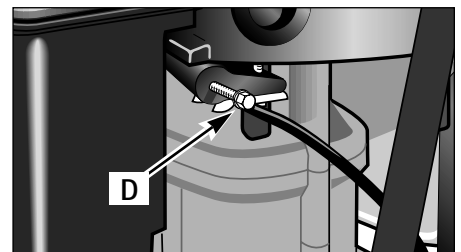

Figure 2: Do not adjust or tighten the engine governor screw.
**IMPORTANT:** Do not tighten engine governor screw (D, Figure 2). It is factory-adjusted for proper engine operation.